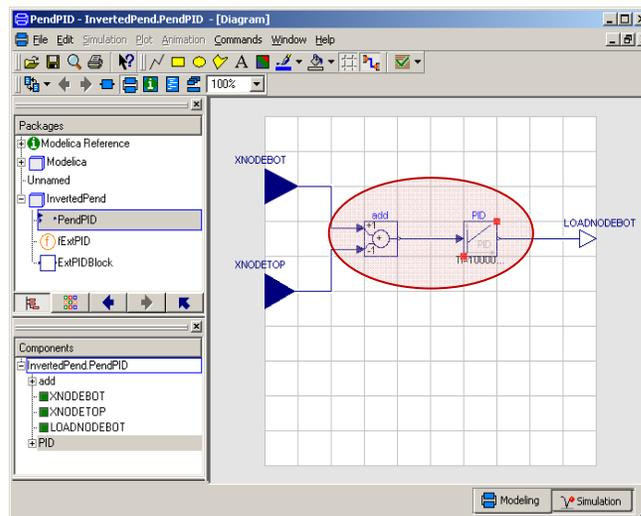
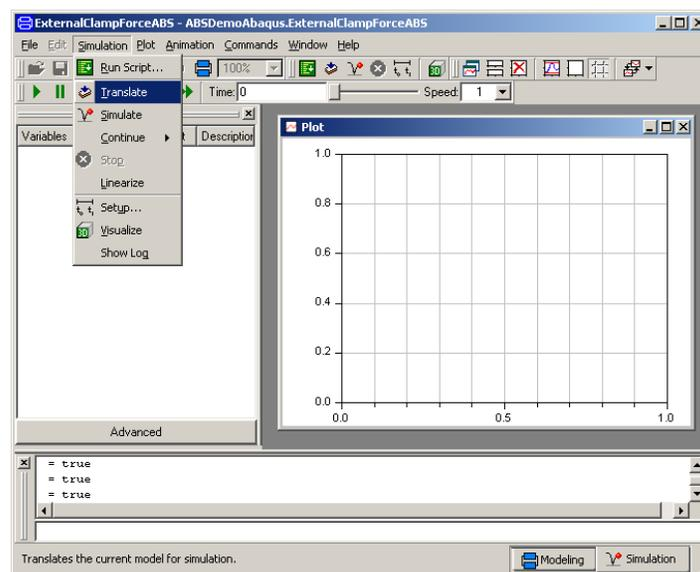

Figure 3-5: Dymola Modeling window
Figure 3-6: Dymola Translate
- 3) Dymola is launched (Figure 3-5) and the logical file written out by the plug-in will be displayed. The Dymola model will have the same name as that of the Abaqus/CAE model.
You are expected to build the logical model using the sensors and actuators as shown in the highlighted area in Figure 3-5. Once the model is complete, in Dymola switch to the Simulation tab (bottom right) and translate the model by selecting **Simulation** → **Translate** (Figure 3-6) to generate the `dymosim.dll` file.